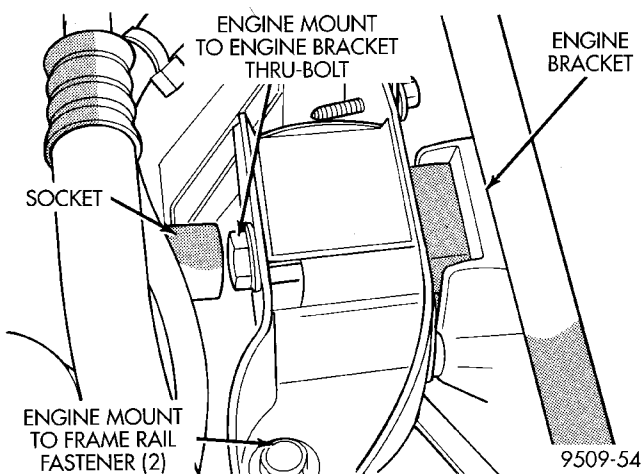

Fig. 16 Engine Mounting—Right
(1) Remove the purge duty solenoid from engine mount bracket.
(2) Remove the right engine mount insulator vertical fasteners from frame rail (Fig. 16).
(3) Remove the load on the engine mounts by carefully supporting the engine and transmission assembly with a floor jack.
(4) Remove the thru-bolt access hole cover. Remove the thru-bolt from the insulator assembly (Fig. 16). Remove insulator.
(5) Reverse removal procedure for installation. Tighten engine mount to rail fasteners to 54 N·m (40